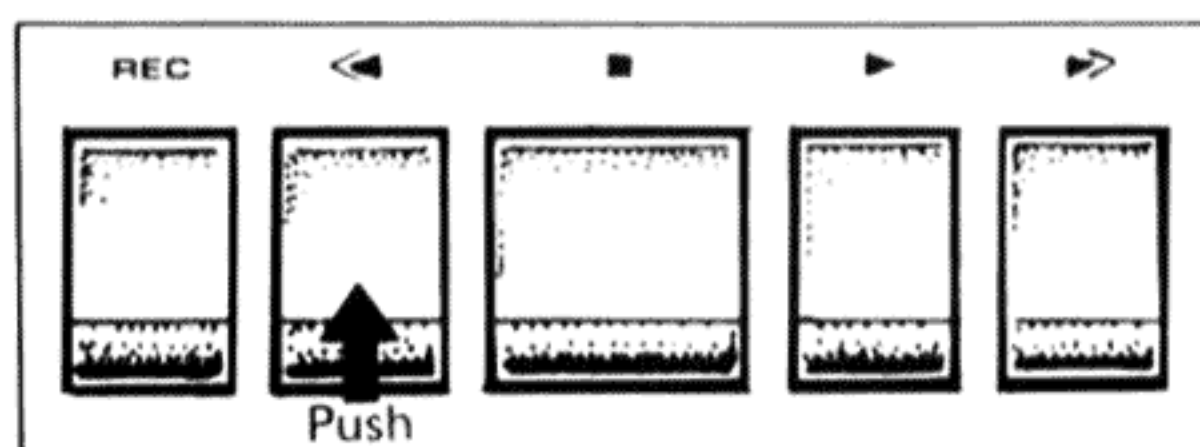

Fig. 25
1. Push the ◀ REWIND button. The tape will be rewound from right to left at fast speed. See Fig. 25.